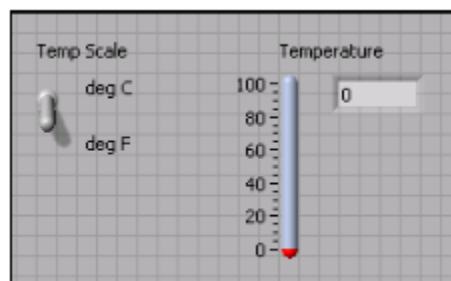

Figure 1. Front Panel
- Front panel of SubVI should look like as shown in figure 1.